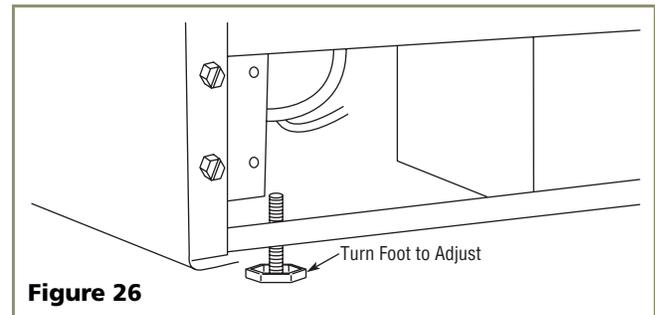

Figure 26
2. If the Beverage Center® is not level, adjust the feet on the corners of the unit as necessary (see **Figure 26**).